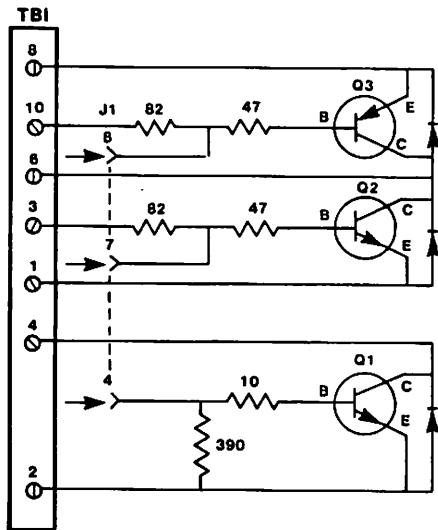

Figure 6-40 Representative Power Amplifier Schematic
- b. Disconnect terminals 1, 3, 8 & 10 from the power amplifier. (See Figure 6-40)
- b. Disconnect the connectors on the power amplifier. (See Figure 6-40)
- b. Replace the determined defective transistors using the power amplifier schematic and resistance chart, (See Figures 6-40 and 6-41)